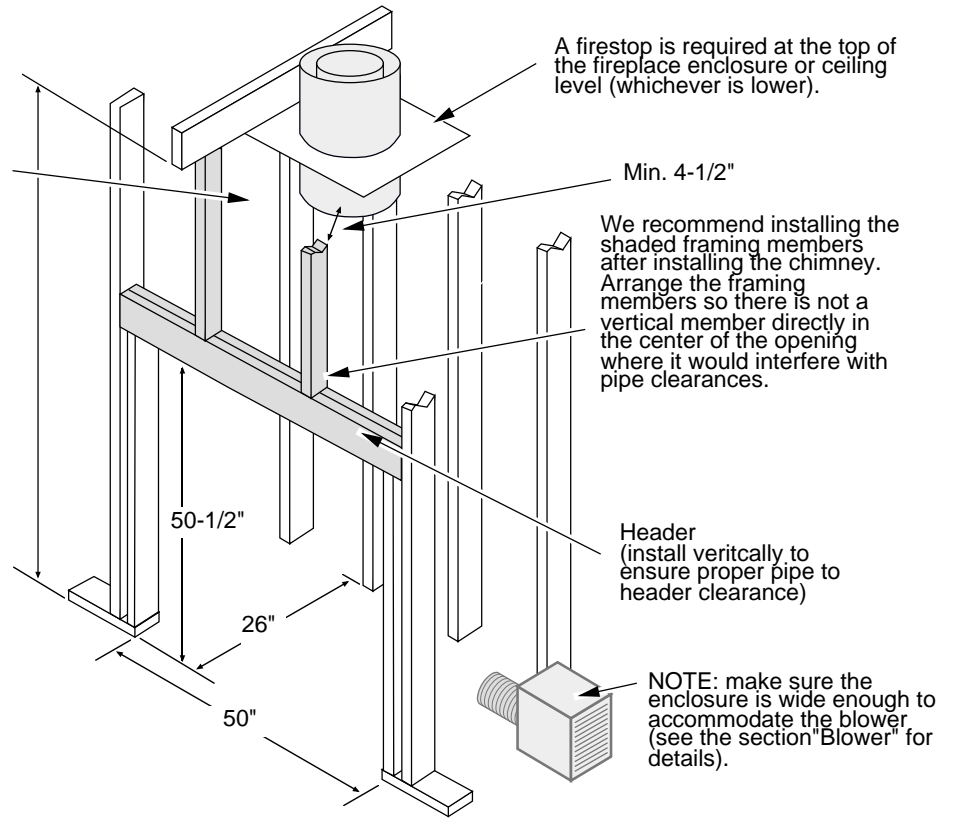

Figure 8
- If the fireplace is raised, the fireplace enclosure must be raised as well (minimum 81" enclosure height from base of fireplace see Figure 8).